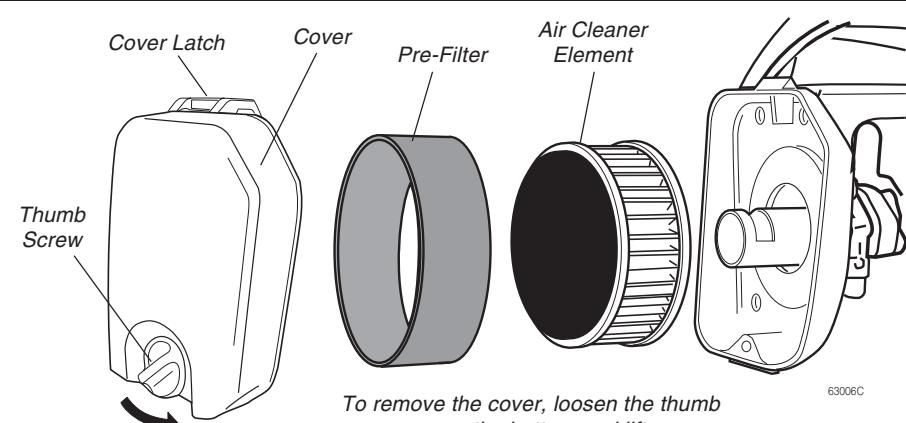

Figure 21
1. Remove the air cleaner cover by loosening the thumb screw and lifting up. See Figure 21.